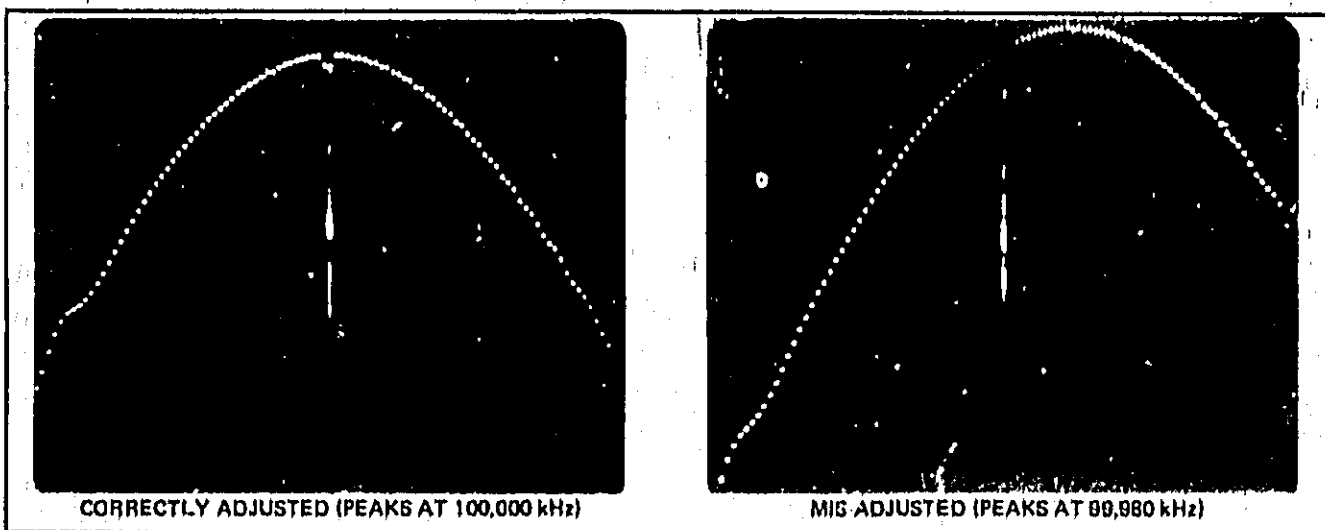

Figure 5-7. Crystal Filter Response: 100 Hz Adjustment.
w. Adjust the 100 Hz ADJ on the Crystal Filter board under test so that the filter response peaks at exactly 100 kHz (center of display). The skirts should be symmetrical about the center frequency (see Figure 5-7).